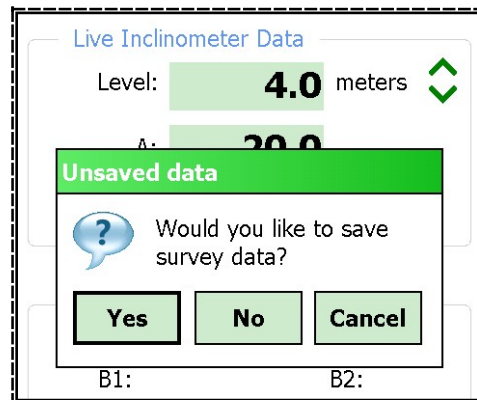

Figure 49 - Unsaved Data Prompt
- At any point you can scroll the ‘Level’ using the green up and down arrow buttons on the screen and view data stored and checksums (lower half of the screen). When done taking readings, tap “Menu” (lower-left corner of the screen), followed by “Exit Live Readings”. You will be given the option to save the readings to a file (Figure 49).